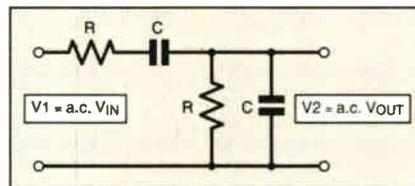

Fig.1. The basic Wien circuit. Note, V_{OUT} is in-phase with V_{IN} when a.c. frequency $f=1/2\pi RC$.
In the early days of telegraphy by wires, Wheatstone produced a d.c. bridge-circuit for the measurement of electrical resistance. By adding two capacitors to Wheatstone's bridge, Wien converted it to an a.c. bridge capable of measuring capacitance, inductance, and frequency. Wien's dual resistor/capacitor (RC) circuit as shown in Fig.1 was later adopted as the feedback circuit by which to convert an amplifier into an oscillator.